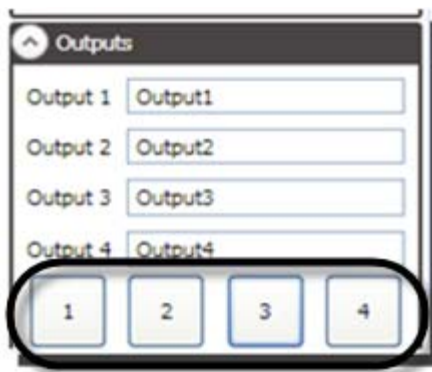

Figure 182
2. Click and hold down one of the output buttons in the **Outputs** section of the **FX Editing Pane** (Figure 182).